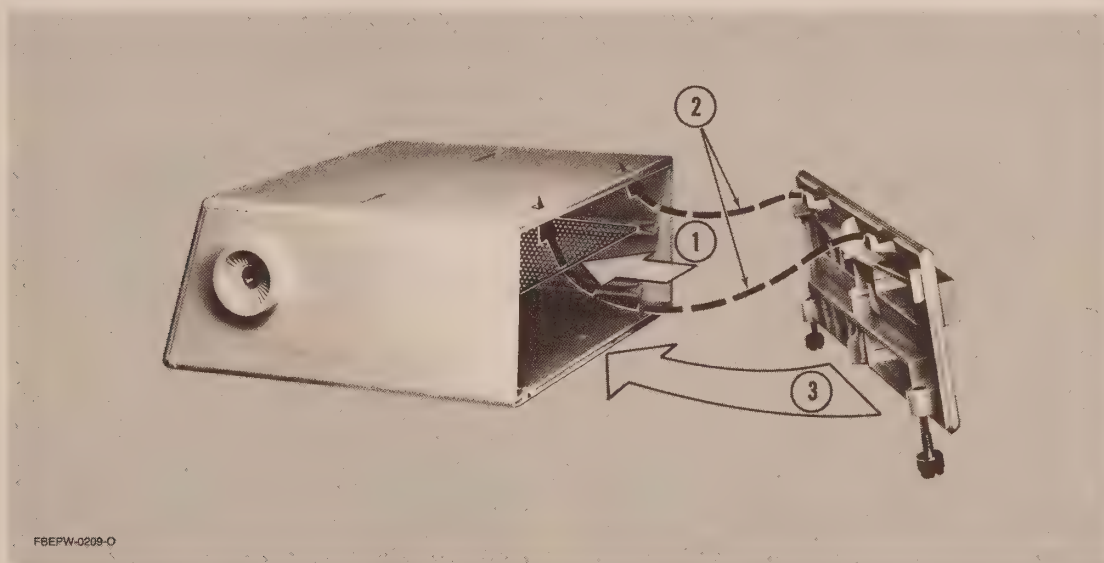

Figure 3. Installation of Circuit Board and Rear Cover
(5) Insert the board into the rails (① in Figure 3) and slide it completely into the housing assembly.
(6) Install the rear housing cover by inserting the tabs on the top of the cover into the holes in the top of the housing assembly (② in Figure 3), and swinging the cover down against the bottom and securing it with the two captive screws (③ in Figure 5).
(7) Use the contact removal tool to remove the following wires, with pins attached, from black connector P1101 (from the alternate control module):
(8) Free the end of the black-gray wire that is tied at the end of the cable.
(2) Put the circuit board between the rails as shown in Figure 3 and slide it all the way into the housing assembly. (Figure 3 shows the *Mitrek* control head, but the *SYNTOR* is similar.)
(3) Remove the old escutcheon, if there is one, from the front panel. Remove the *MVS-20* escutcheon from its backing and apply it carefully to the front panel of the housing assembly. Use care to align the holes in the escutcheon with the holes in the panel.
(4) Install the rear housing cover by inserting the tabs on the top of the cover into the holes in the top of the housing assembly (Figure 3) and swinging the cover down against the bottom and securing it with the two captive screws.
(5) Disconnect black connector P1011 from the control head.
(6) Use the contact removal tool to remove the following wires, with pins attached, from P1101: